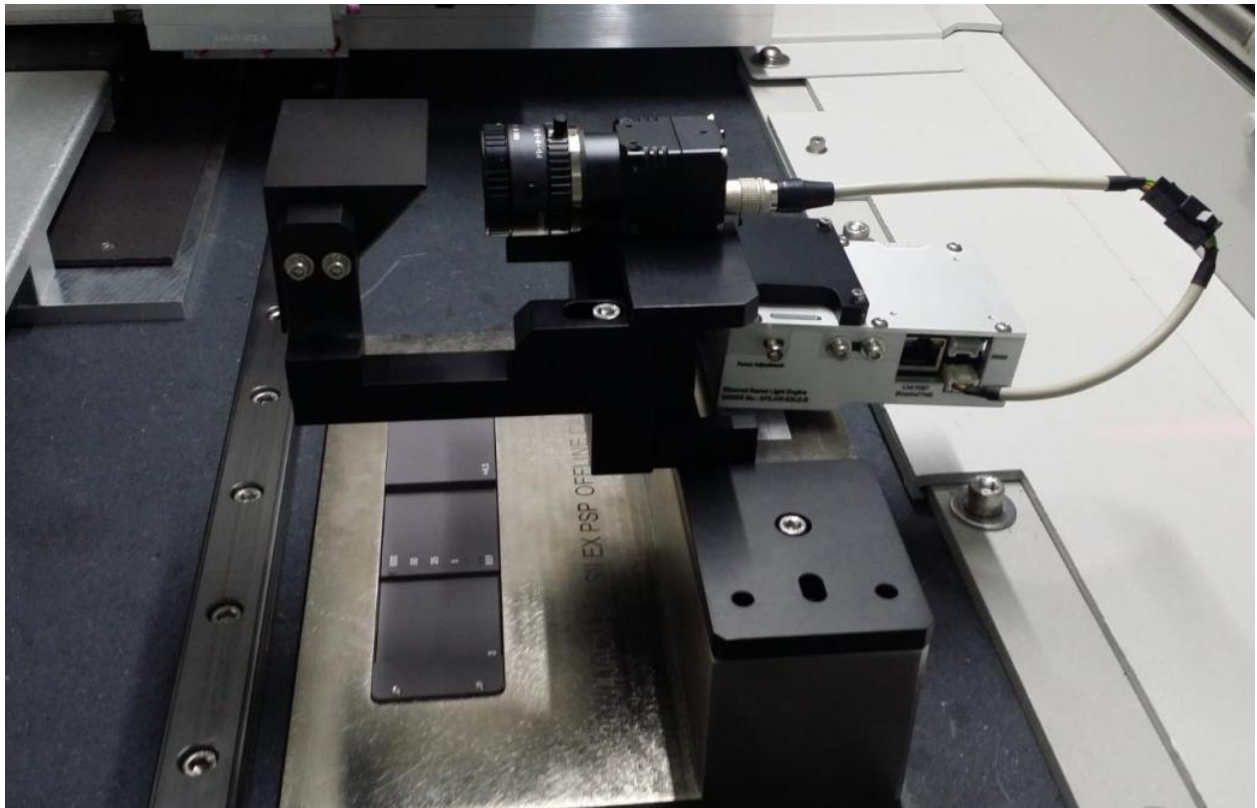

Figure 3 OFFLINE JIG & MODULE LOCATION
- Open Front Access Door , gently allocate “S2EX PSP Offline Adjustment Jig ” (Part ID- 4XASPP-A003) at Granite area (May refer to below Figure 3 for the desire location)